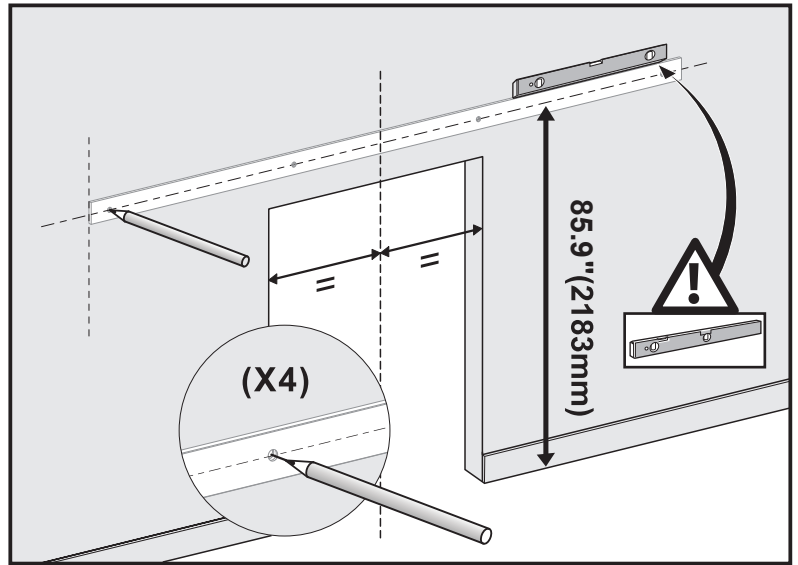

Fig 6
1. This step requires a second person. Measure the center of **Track [03]** from the floor as figure shows. Center the **Track [03]** with the opening as figure shows. (Fig 6)